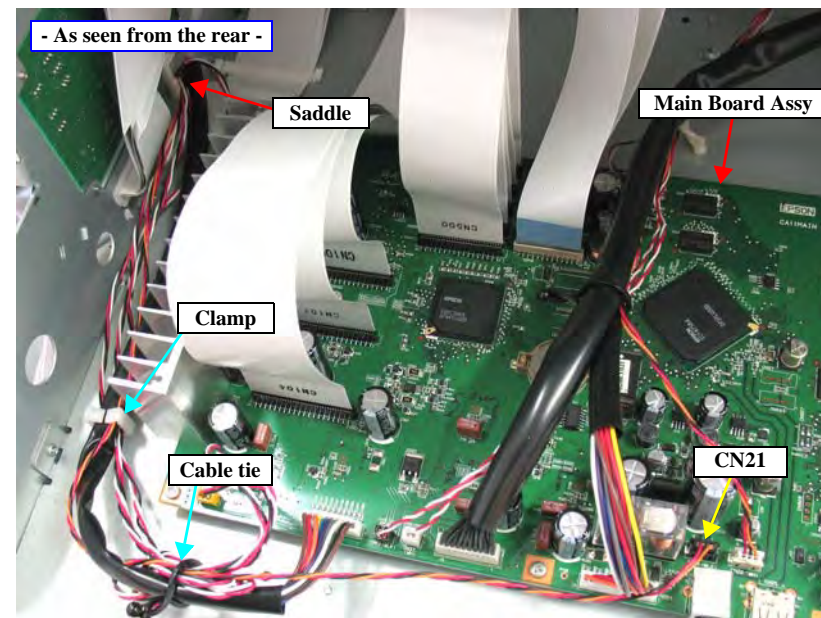

Figure 4-35. Releasing the harnesses (rear)
9. Release the cable from the cable tie, clamp and the saddle. *See Figure 4-35.*